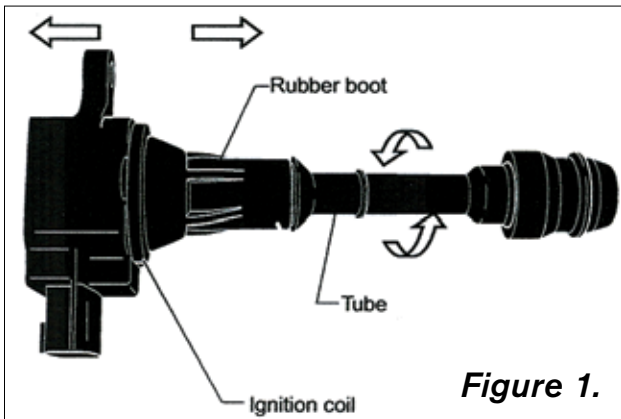

Figure 1.
- A. Pull the rubber boot away from the ignition coil. Then, twist and pull the ignition coil tube from the ignition coil to separate them (Fig. 1).